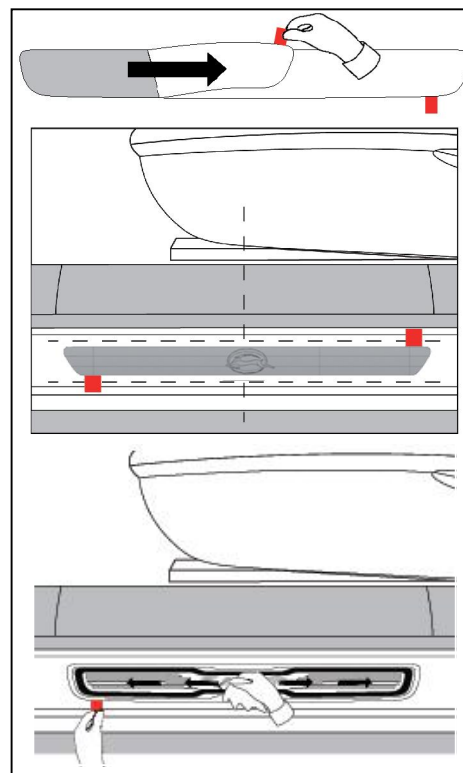

FIGURE 4
3. Lay the sill plate face down on a flat surface and carefully remove the backing paper liner from the plate (Figure 4).
5. Important: hand pressure may not provide the necessary "wet out". Apply firm pressure onto the plates starting from center and moving outboard. Use firm, overlapping strokes and apply pressure around the perimeter of the plate multiple times (Figure 4).